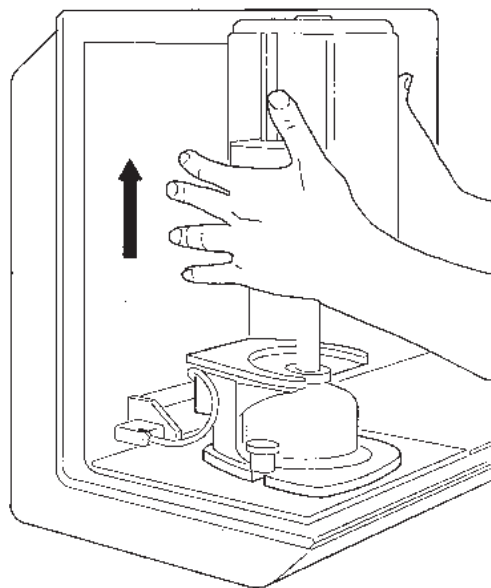

Figure 3.10
2. Loosen the two furnace assembly thumb-screws, and carefully lift the furnace off the furnace base. Lift the furnace straight up to avoid damaging the furnace tube (see Figure 3.10).